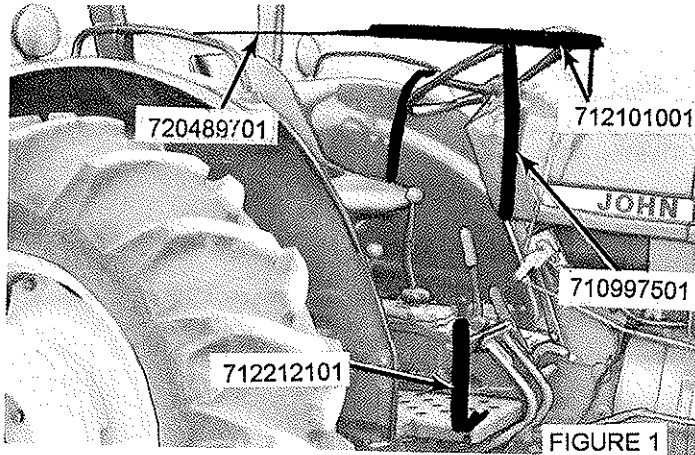

FIGURE 1
1. Remove inspection panel below key. Bolt #710997501 yoke bracket and #710997701 post bracket using 5/16" x 1" bolts, and nuts. See Figure 1.
2. Place cover over tractor and slide #712101001 yoke into wide hem on top of cover. Bolt yoke to yoke bracket using 1/4" x 1" bolts and nuts. NOTE: Head of bolt to inside of tractor. See Figure 1.
4. Insert #720489701 side arm into wide hem on right side and bolt to yoke using 3/8" x 11/2" bolt and nut. Bolt back to grab rail using 1/4" x 3/4" x 11/4" U-bolt. See Figure 1.
5. Bolt #712212101 pedal guard to right step using center hole in 2nd row from front. Use 3/8" x 11/2" bolt and large washer under step. See Figure 1.
7. Place #710902601 latch up under bottom of door and mark through holes in latch onto fender. Drill (2) two 13/32" holes in fender and bolt latch to fender using 3/8" x 11/2" bolts and nuts. See Figures 1 & 2.